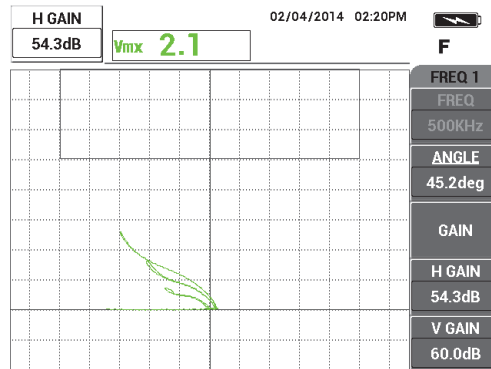

Figure 5-5 Adjusting the horizontal gain
7. Press the GAIN key (**dB**) twice to display **H GAIN** in the upper-left corner of the screen, and then decrease the horizontal gain with the knob until the signal from the larger notch is about 3 divisions away from the crosshairs (see Figure 5-5 on page 130).